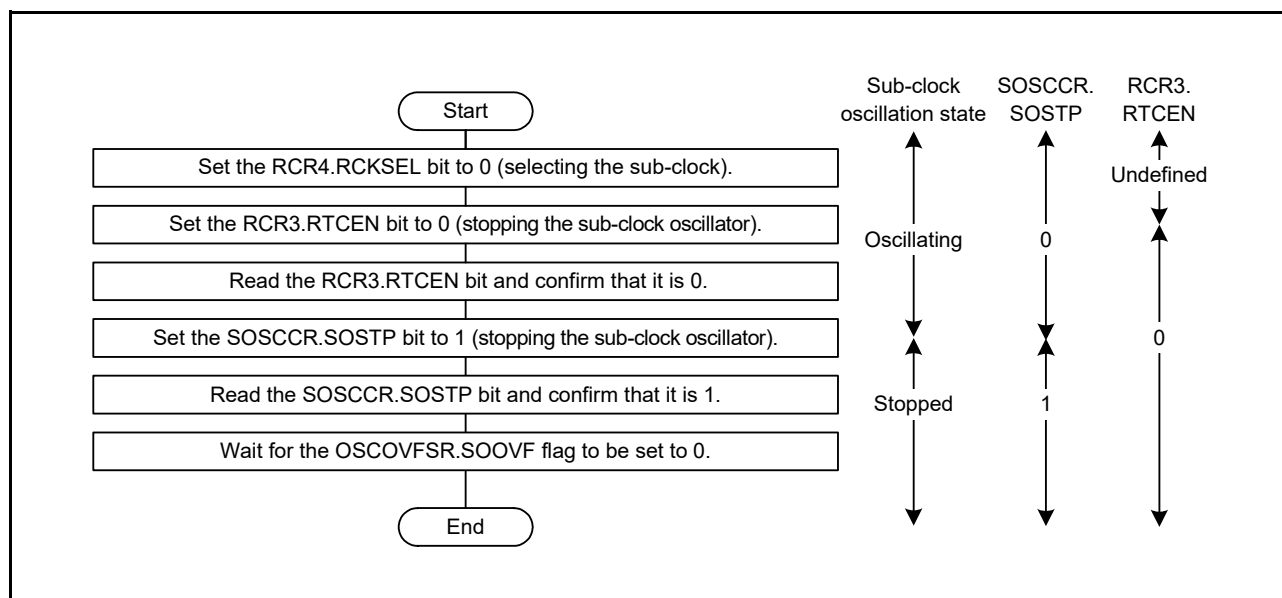

Figure 9.15 Example of Initialization Flowchart When Sub-Clock is Not Used
- Make initial settings according to the example flowchart shown in Figure 9.15 when the sub-clock is not used.